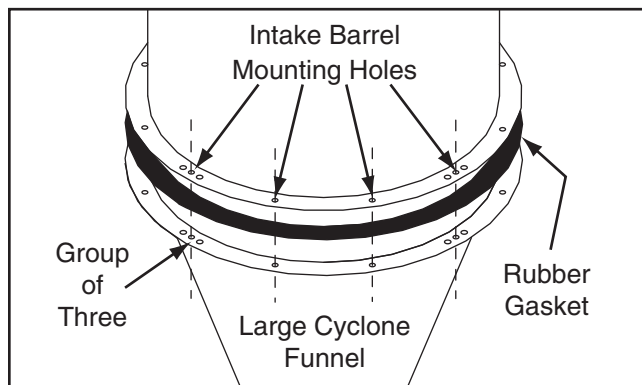

Figure 14. Intake barrel and large cyclone funnel mounting holes aligned.
11. With assistance, place intake barrel over large cyclone funnel and align mounting holes as illustrated in **Figure 14**.